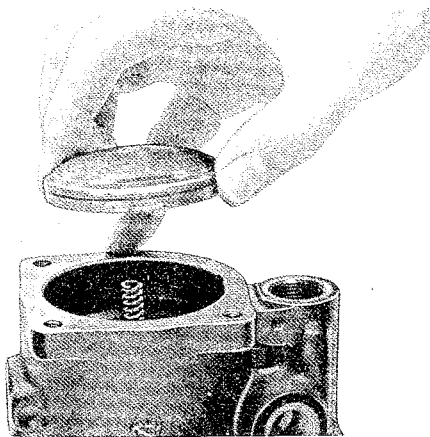

Fig. 6-103. Installing cover
11. Install the O-ring (21) in its groove (Fig. 6-103). Fit the spring (22) and cover according to Fig. 6-103. Hold down the cover with pliers and fit the snap ring (20) in its groove.